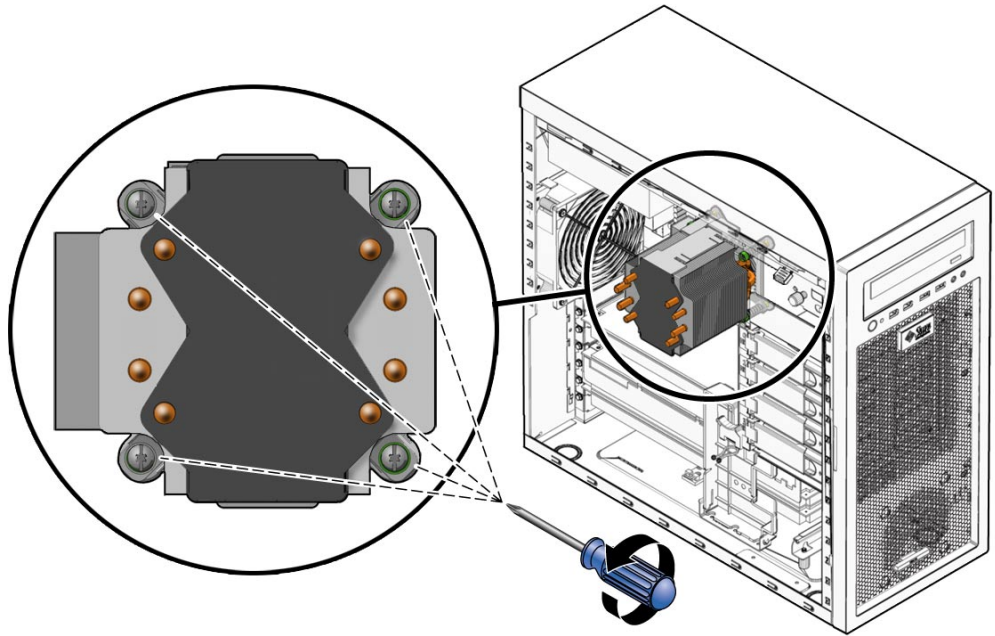

FIGURE 3-31 Removing the Heat Sink-Fan Assembly
- 5 **Remove the heat sink assembly by alternately loosening (2-3 turns) the four captive screws that secure the heat sink assembly to the motherboard. Continue loosening each screw until all the screws are no longer securing the heat sink (see Figure 3-31).**